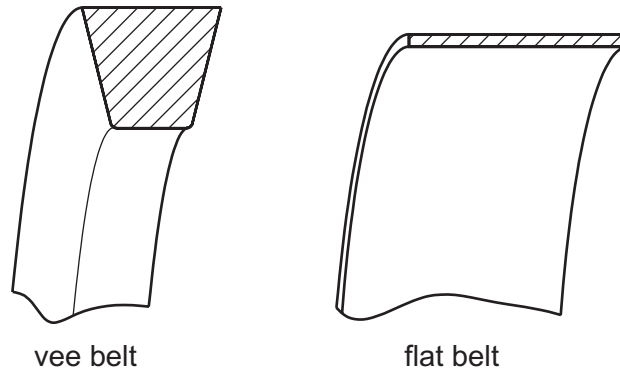

Fig. 10.3
- (c) Fig. 10.3 shows details of a vee belt and a flat belt that can drive a pulley in either direction.